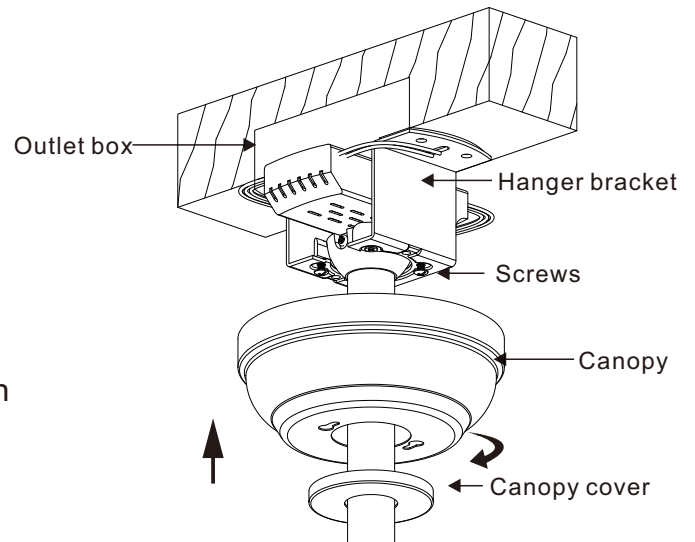

Figure 7
Step 2. Loosen the two screws on the bracket. Slide the canopy up to hanger bracket and place the key hole on the canopy over the screw on the hanger bracket, turn canopy until it locks in place at the narrow section of the key holes then tighten the two screws. (Fig.7)